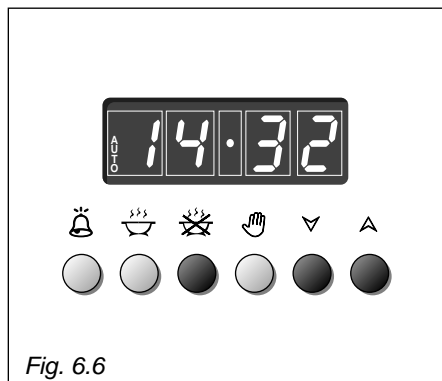

Fig. 6.6
2. Set the time you need the food to stop cooking by pushing the  button (the cooking time already added to the clock time will appear), and the  button (fig. 6.6); if you pass the desired time you can go back by pushing the  button.